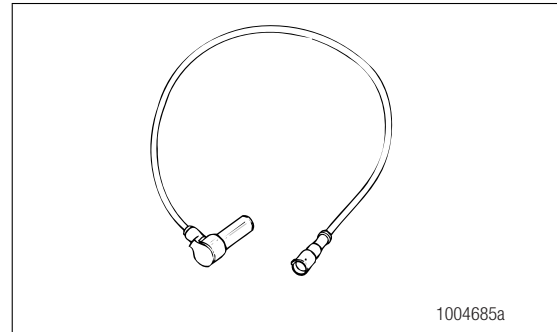

Figure 1.5
- Produces an output voltage proportional to wheel speed. Figure 1.5.